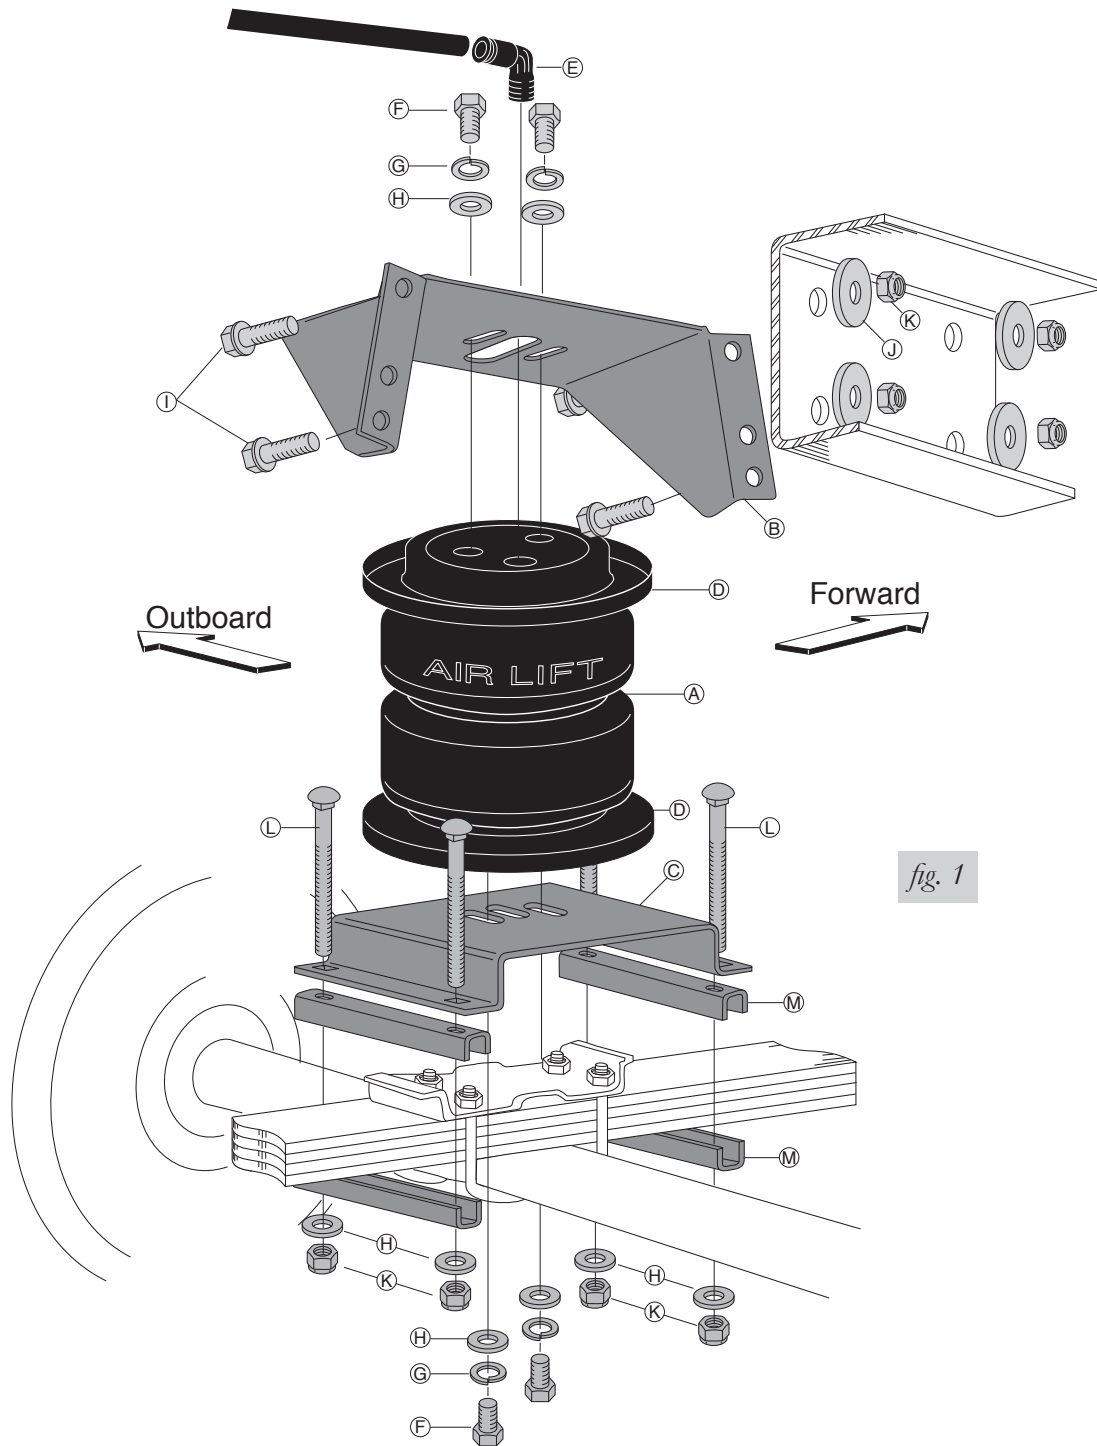

fig. 1
3. Attach the upper bracket (B) with the legs down using two flat washers (H), two lock washers (G), and two bolts (F). Refer to Figure 1. Leave loose for adjustment.
4. Place the lower bracket (C) on to the bottom of the air spring and roll plate so that the flat edge of the lower bracket mounts towards the legs of the upper bracket (inboard). Refer to Figure 1.
5. Attach the lower bracket to the air spring assembly using two flat washers (H), two lock washers (G), and two bolts (F). Refer to Figure 1. Leave loose for adjustment.
If the measurement is not within the specified parameters or if the stock u-bolts hit on the lower bracket, use two spacer bars (M) provided under the lower bracket to achieve the distance of 4.5" to 6.5" (Figure 1).
4. Attach the lower bracket using two clamp bars (M), four carriage bolts (L), four flat washers (H), and four nylock nuts (K). Refer to Figure 1. Tighten securely.
2. Center punch and drill a hole on the other side of the upper bracket and install a frame bolt (I), an oversized flat washer (J), and a nylock nut (K). Refer to Figure 1.
3. Remove the clamps and drill the remaining two holes and install a frame bolt (I), an oversized flat washer (J), and a nylock nut. Tighten all upper bracket hardware to 44 ft-lbs.